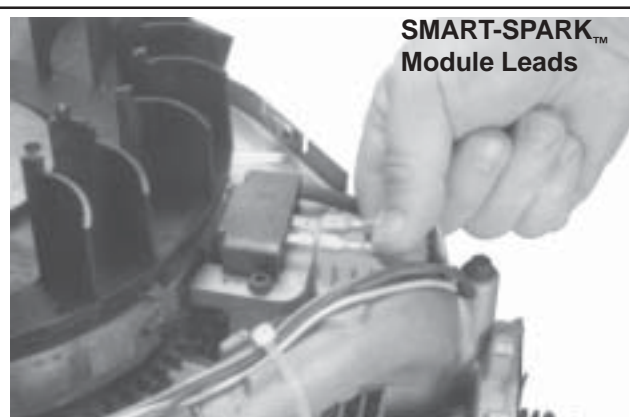

Figure 9-38. Disconnect Lead(s) from Ignition Modules.
1. Disconnect the lead(s) from each ignition module. See Figure 9-38.